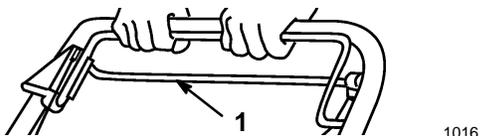

Figure 13
2. To disengage the self-propel drive, release the self-propel bail (Fig. 13), then push the mower forward manually at least 1 in.